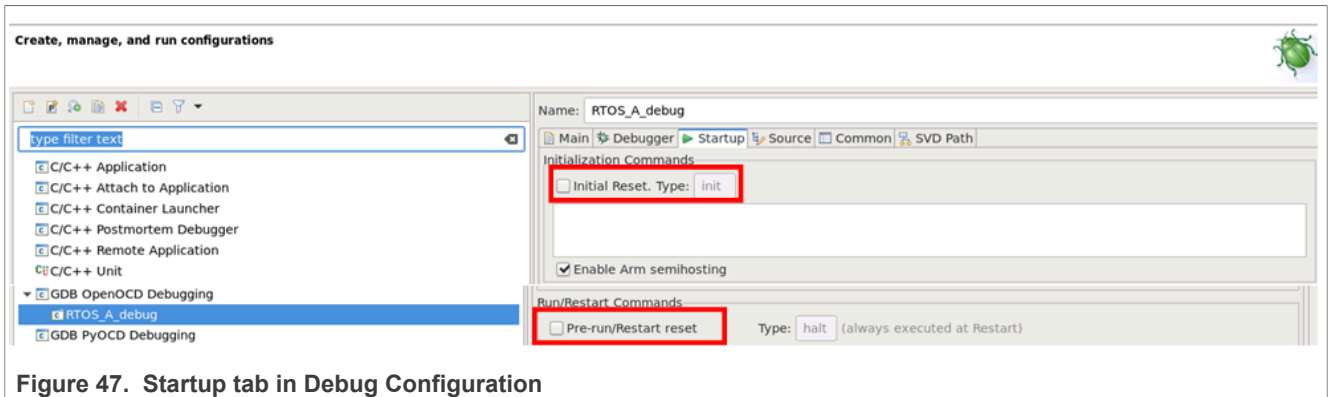

Figure 47. Startup tab in Debug Configuration
5. Unflag **Initial Reset** and **Pre-run/Restart reset** in **Startup** to avoid board resetting as shown in Figure 47